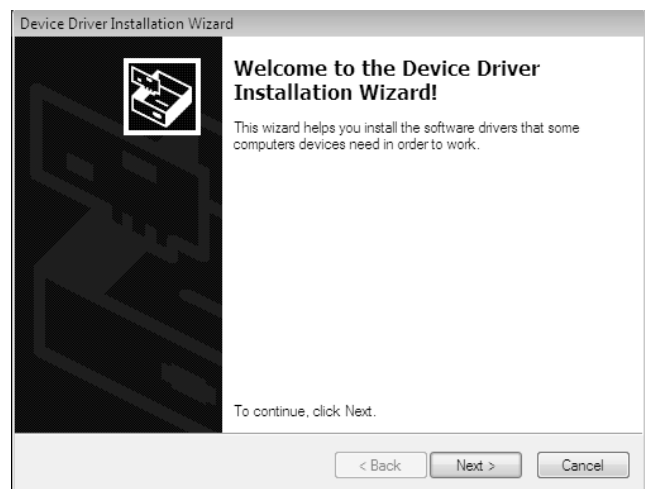

Fig.13
8. Install wizard screen of device driver is displayed. (Fig.13)